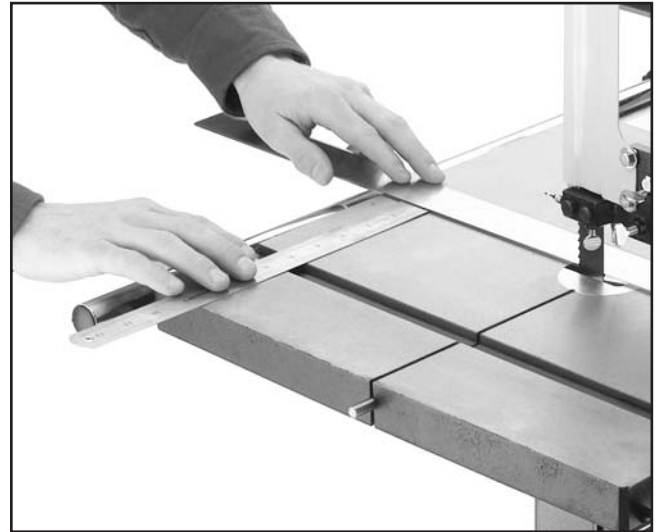

Figure 33. Squaring table to blade.
2. Place a good straightedge along the blade. The straightedge should touch the front and the back of the blade. Use a fine ruler to gauge the distance between the blade and the miter slot as shown in **Figure 33**. The distance you measure should be the same at both the front and the back of the table.